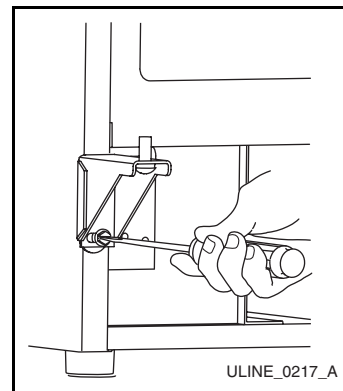

Figure 24
5. Install hinge on opposite side, bottom of cabinet (**Figure 24**). Replace nut on back side where installed. Align hinge outer edge with cabinet before tightening screws.